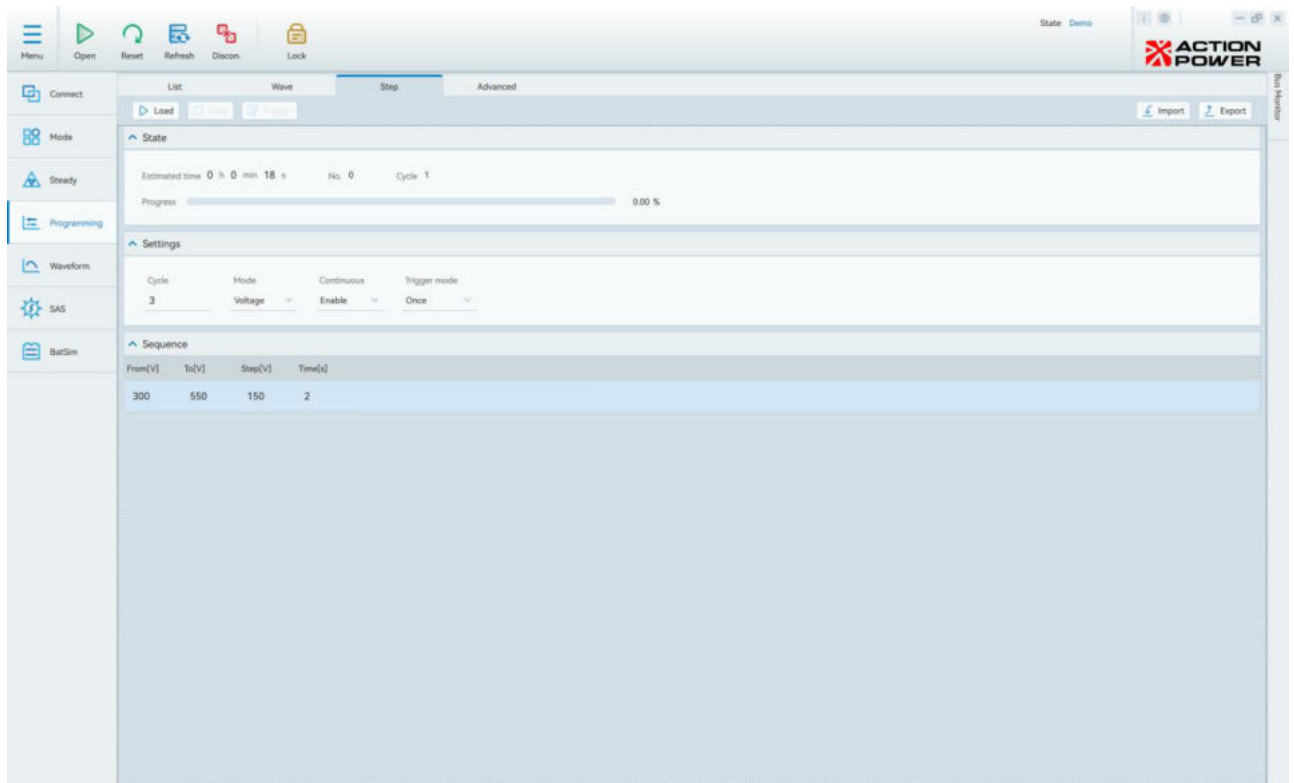
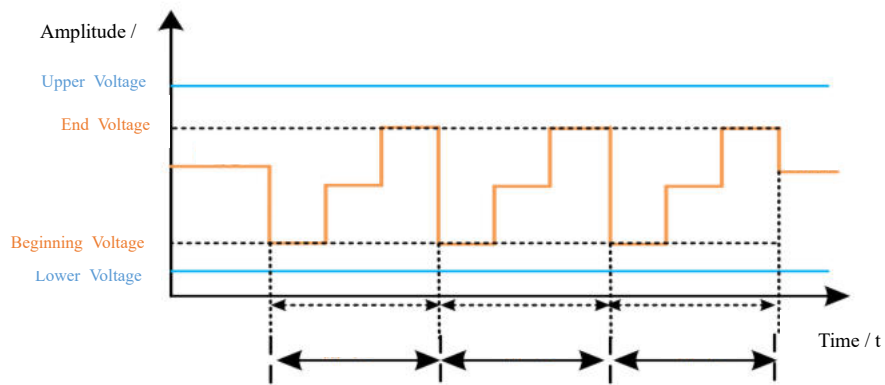

Figure 4.3.7 Step Programming Sequence Configuration Example Diagram
Figure 4.3.8 Step Waveform Diagram
- Example: Select voltage mode, set the number of cycles to 3, set the start voltage to 300, set the end voltage to 600, set the voltage variation amplitude to 150, and set the single-step hold time to 2 seconds. The Step programming sequence configuration diagram is shown in Figure 4.3.7, and the corresponding waveform diagram is shown in Figure 4.3.8. After 3 cycles, it stabilizes at a steady state.